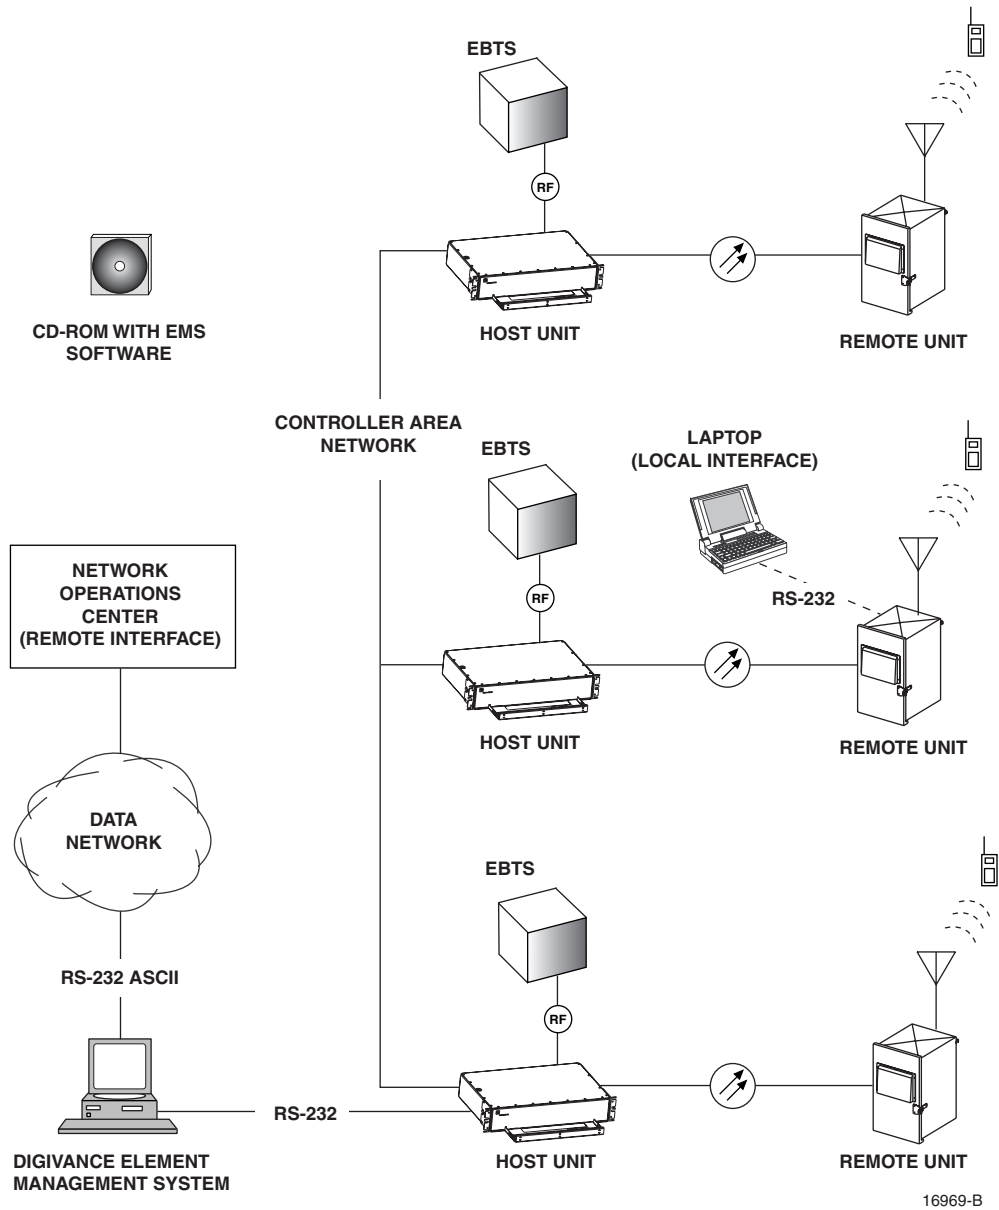

Figure 1-1. System Overview Diagram
The basic components of a single band Digivance LRCS system and their functions are shown in Figure 1-1. A single band LRCS system consists of a Host Unit (HU) and a Remote Unit (RU). Control and monitoring functions are provided by the Digivance Element Management System (EMS). On an optional basis, each HU and RU system may be ordered either with or without reverse path diversity. In addition, various accessory items including a back-up battery kit (for the RU), a Wave Division Multiplexer (WDM) module (for the HU and RU), network cables (for connecting multiple HU's together), and EMS cable (for connecting the EMS computer to the HU) are available separately.